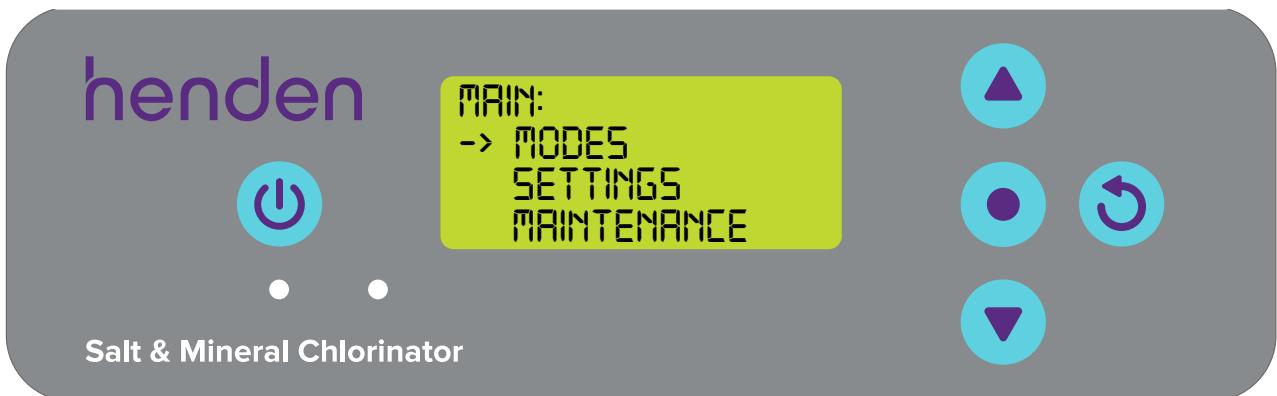

Figure 8.18
- From the **HOME SCREEN**, press the  **menu/setting select** button. This will now show the main menu (refer figure 8.18)